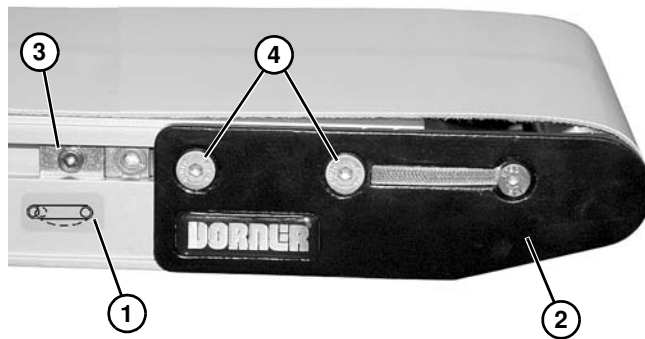

Figure 113
1. On tension end of the conveyor, identified with  a label (**Figure 113, item 1**), push in head plate assembly (**Figure 113, item 2**):
- a. On both sides of conveyor, loosen and move cam tracking assemblies (**Figure 113, item 3**) (if equipped) away from head plates.
- b. Loosen fastening screws (**Figure 113, item 4**) and push head plate assembly inward.